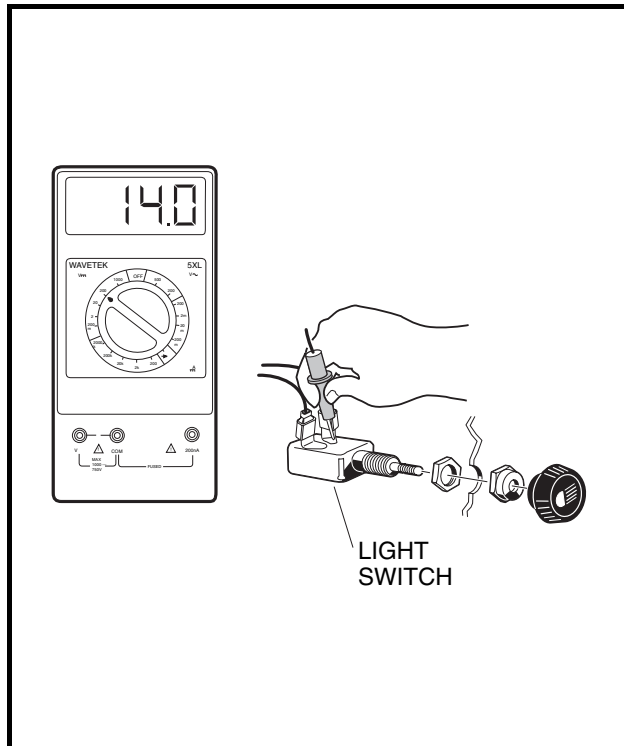

Figure 11-37 Light Switch Test
- Using a multimeter set on 20 volts DC, place alligator clips on the multimeter probes. Connect the red (+) probe to the light switch terminal with the blue wire connected to it (**Figure 11-37, Page 11-35**).